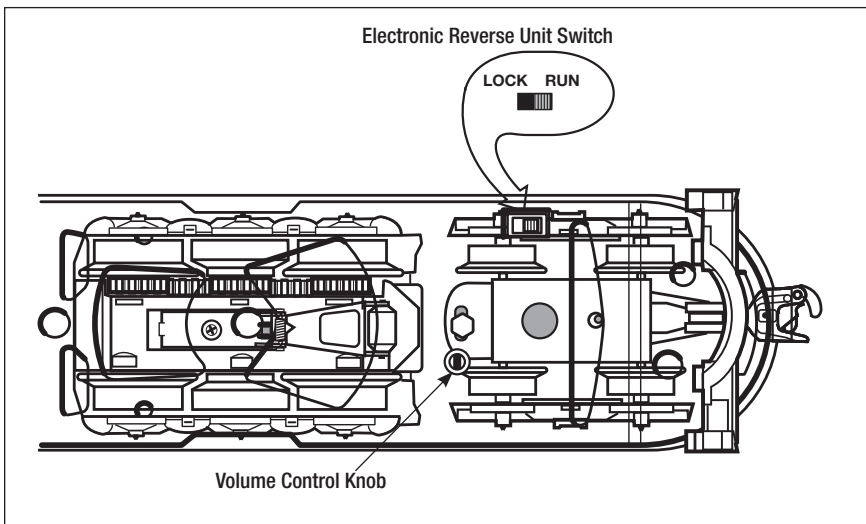

Figure 1. Switch and volume control locations
To “lock” your locomotive into forward operation only, you can deactivate the reverse unit’s sequencing function. Follow the steps below and refer to Figure 1 for the location of the reverse unit switch.
2. Slide the reverse unit switch to the LOCK position. See Figure 1 for the location of this switch. At this point, the locomotive is “locked” into forward direction operation.
When you power up the locomotive on the track, you will hear the sounds of the idling locomotive. The sounds will increase proportionally with the locomotive's speed. Use the volume control knob to adjust the volume. See Figure 1 on page 5 for the location of this control, which is located on the underside of the locomotive.
To adjust the volume or to silence the electronic horn and bell sounds, use the volume control knob located on the underside of the locomotive. See Figure 1 on page 5 for the location of the Volume Control Knob.